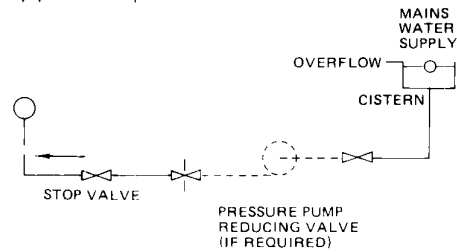

FIG 7. FULLY PUMPED SEALED SYSTEM
- ii) where access to a make-up vessel would be difficult by using the mains top up method or a remote automatic pressurisation and make-up unit as illustrated in FIG. 7 METHODS 1 and 2.
The system shall be fitted with a filling point at low level which incorporates a stop valve to BS1 010 and a double check valve (approved by the National Water Council) to be fitted in this order from the system mains, Refer to FIG. 7. Method 1.